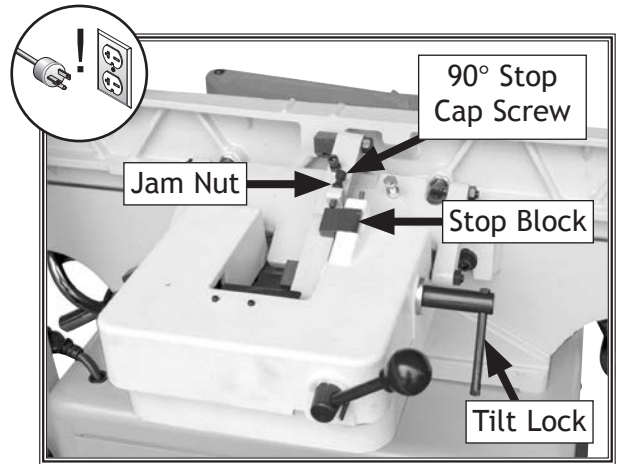

Figure 58. Fence set to 90°.
2. Loosen fence tilt lock, rotate stop block down, and position fence approximately 90° onto stop cap screw (see Figure 58).
4. Loosen jam nut on 90° stop cap screw and adjust cap screw until fence is exactly 90° while cap screw is resting on stop block (see Figure 58). Verify angle, then retighten jam nut.